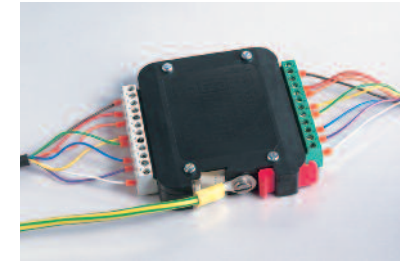

Figure 3: Flat mounting.
Fixing holes through the Lightning Barrier enable it to be screwed to flat surfaces (see Figure 3).
- (b) by connecting a crimped earth cable to the barrier via the M5 threaded hole in the unit (see Figure 3)